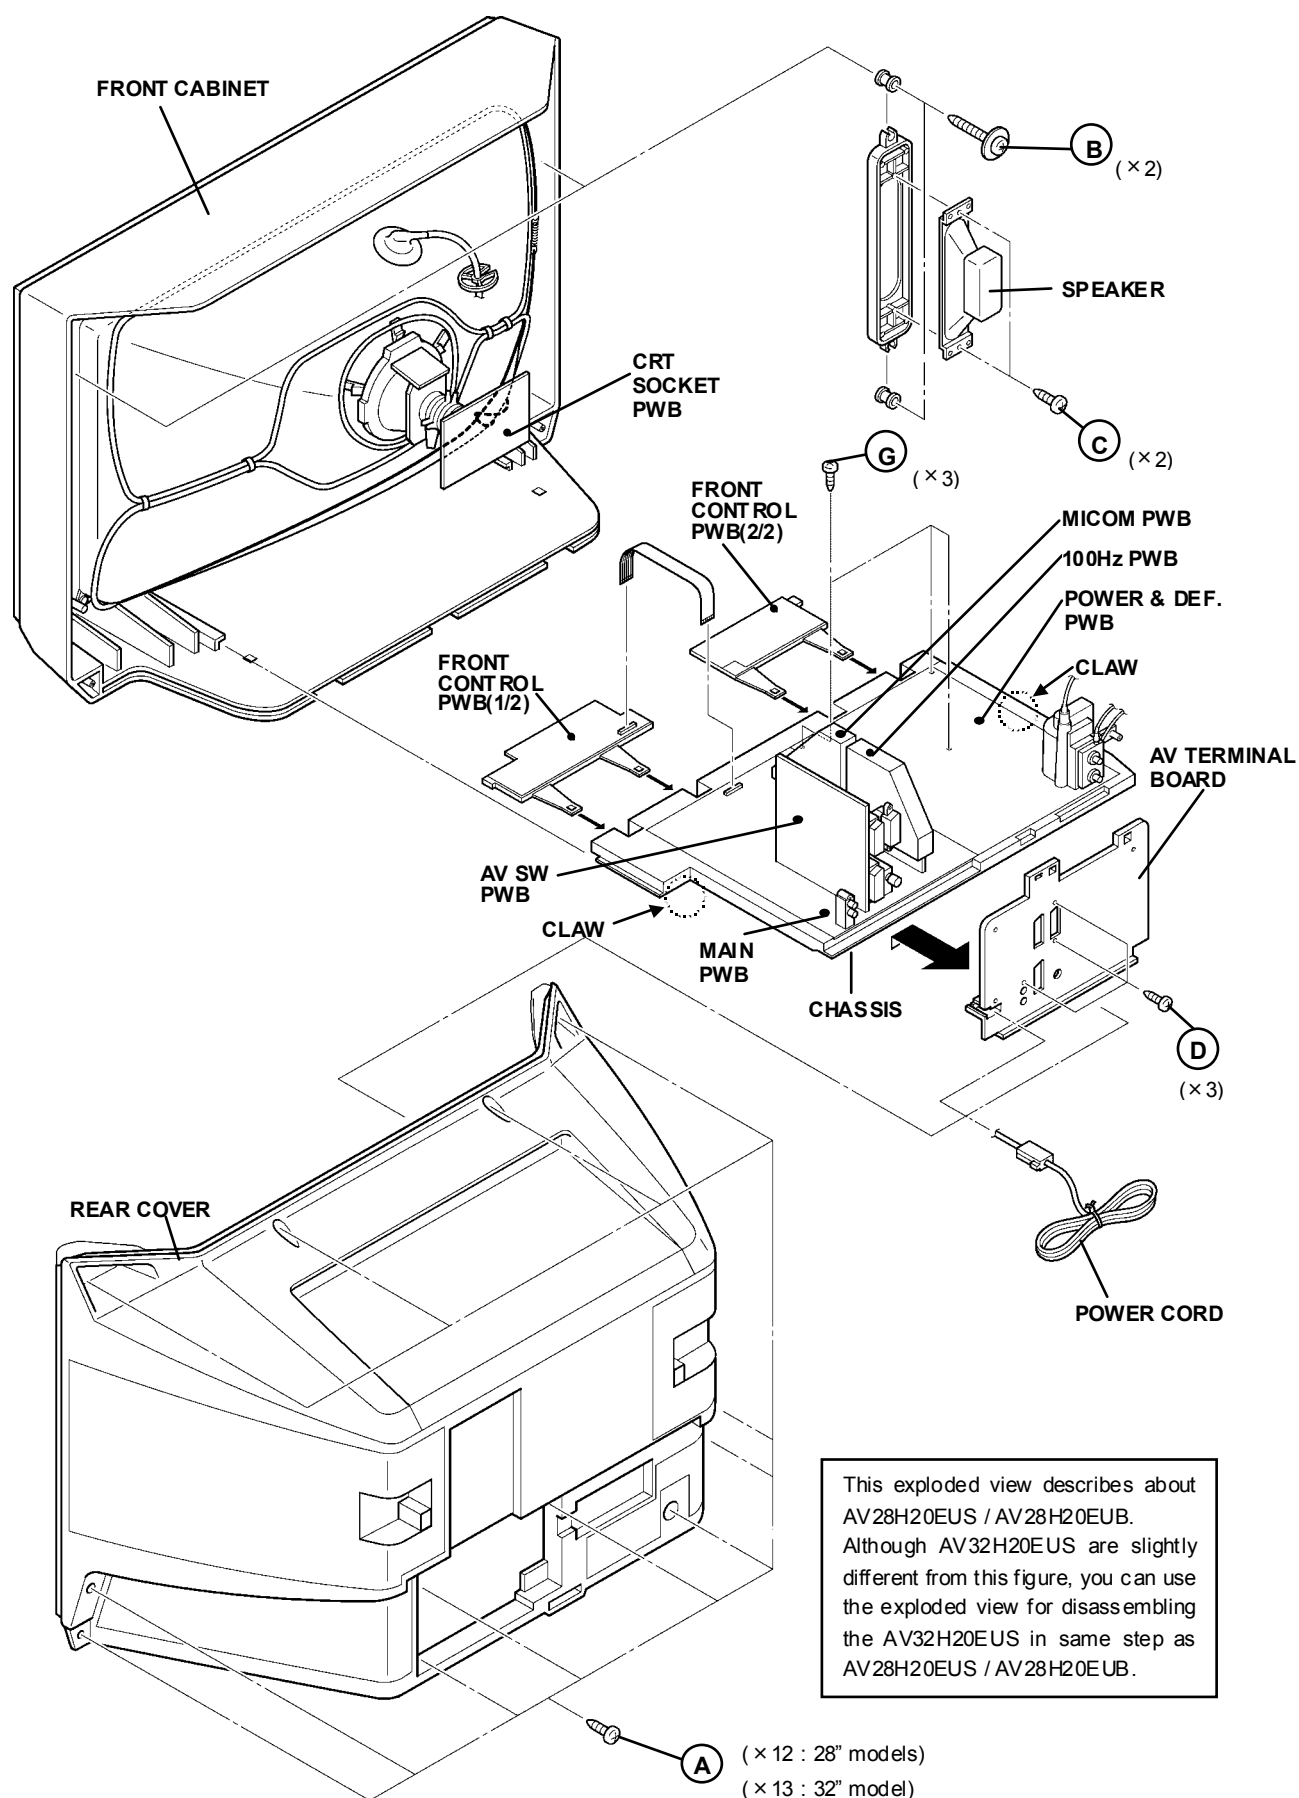

Fig. 1
1. Remove the 2 screws marked **B**, and remove the speaker holder as shown in Fig. 1.
1. Remove the 3 screws marked **D** as shown in the Fig. 1.